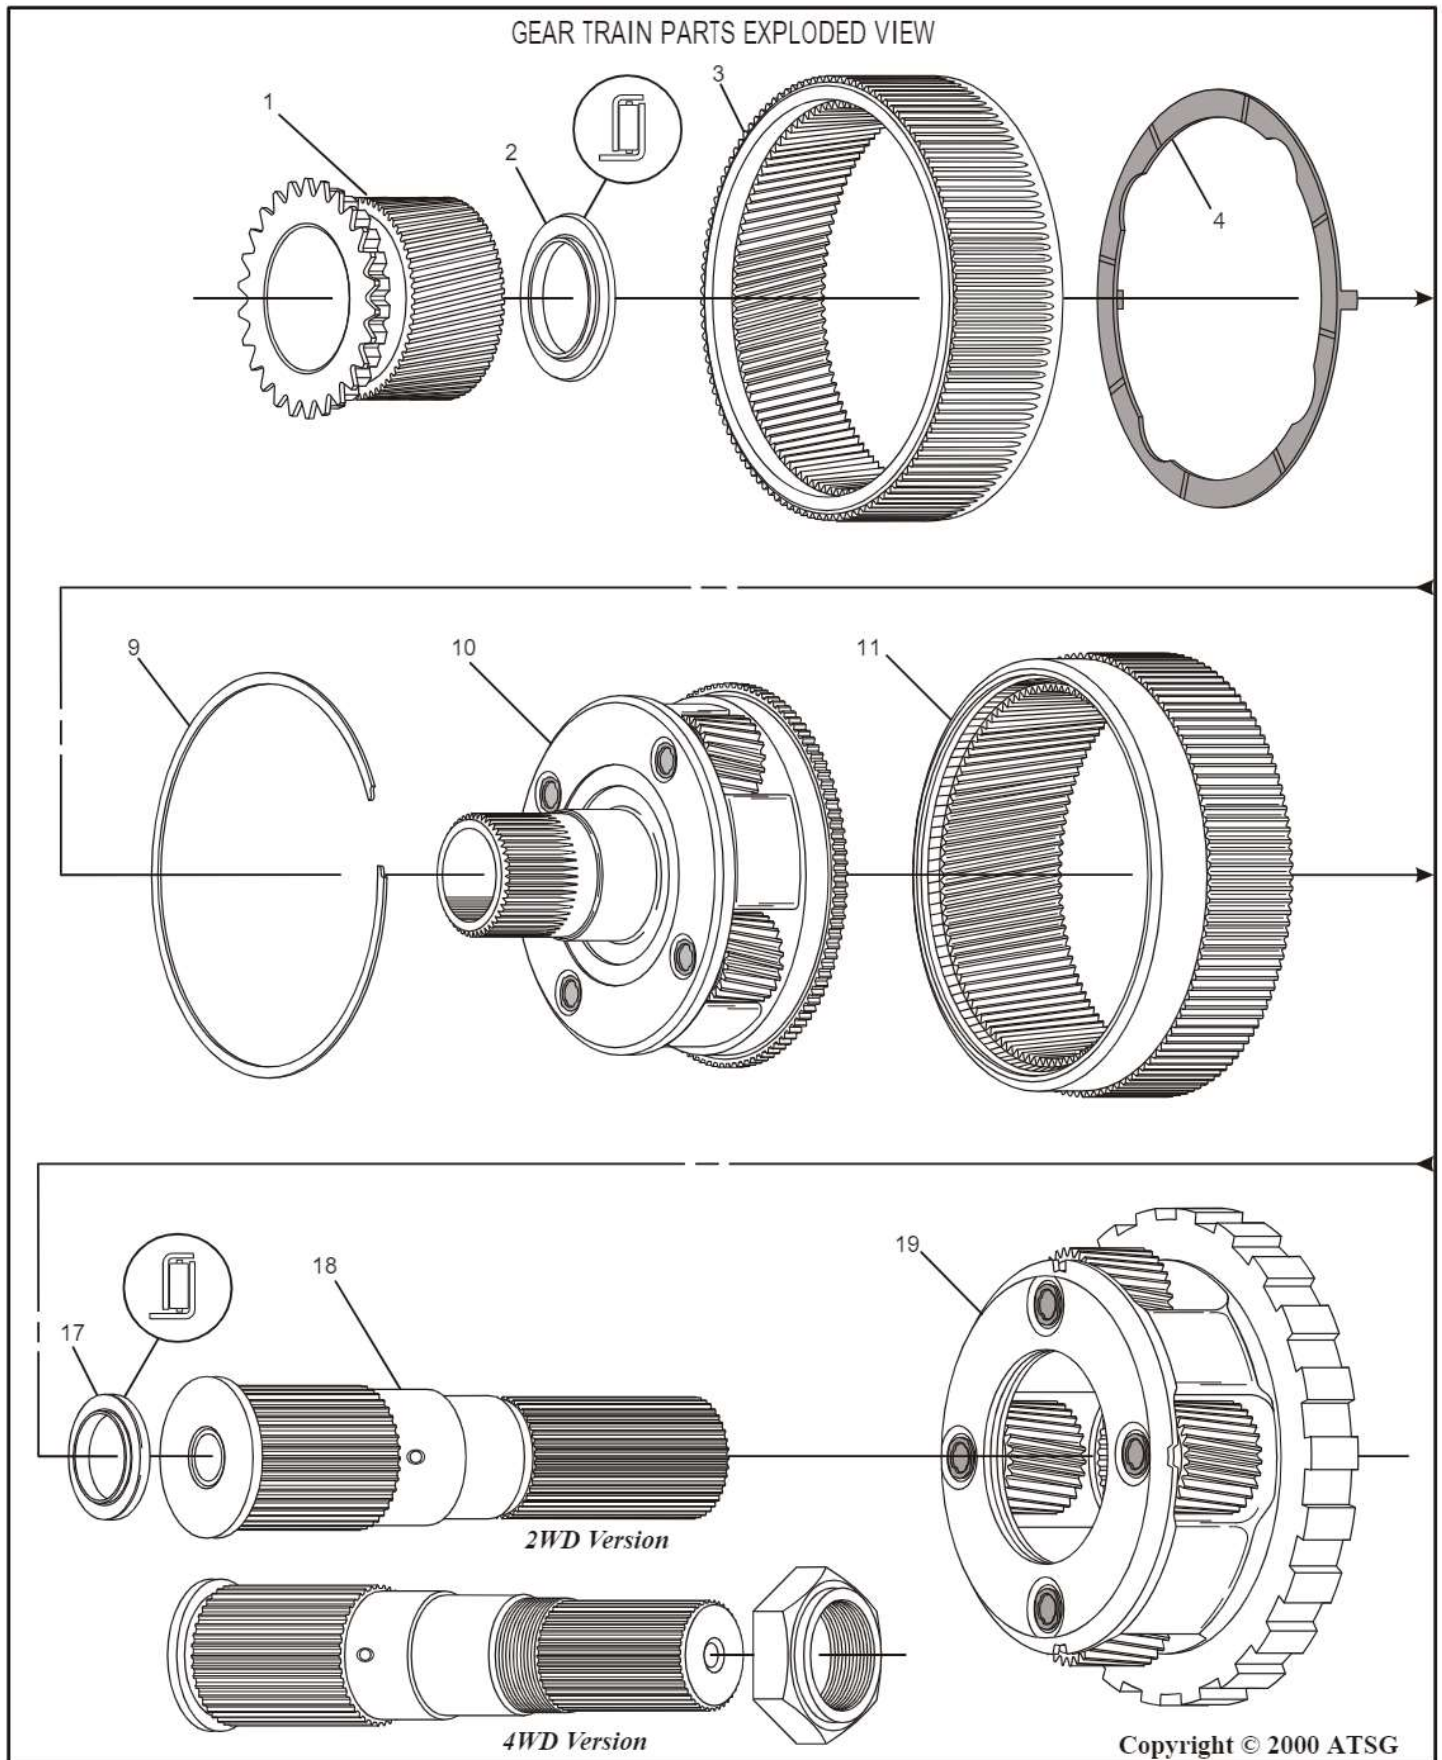

Figure 139
1. Inspect all gear train parts thoroughly, that are shown in Figures 139 and 140, for any wear and/or damage.